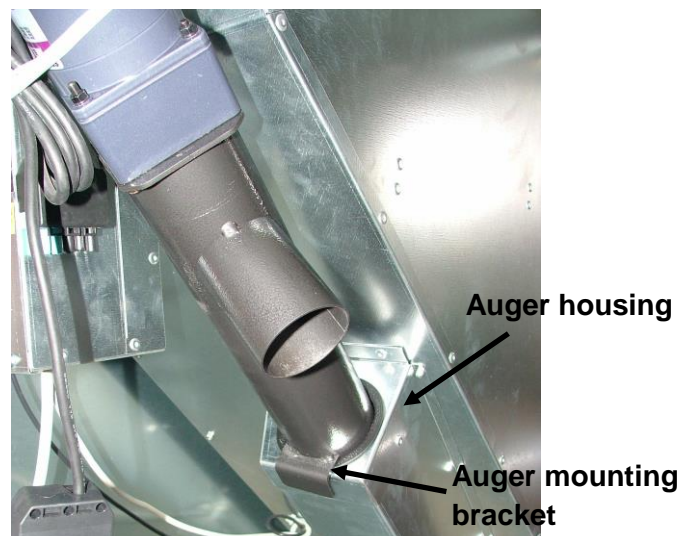

Figure 3-3. Auger mounting bracket
- The auger is not fastened to the pellet hopper but is held in position by a bracket that fits over the auger housing. Refer to Figure 3-3.
- Reposition the auger back in its original position in the auger housing. Ensure that the auger mounting bracket is correctly fitting over the end of the auger housing. Refer to Figure 3-3.